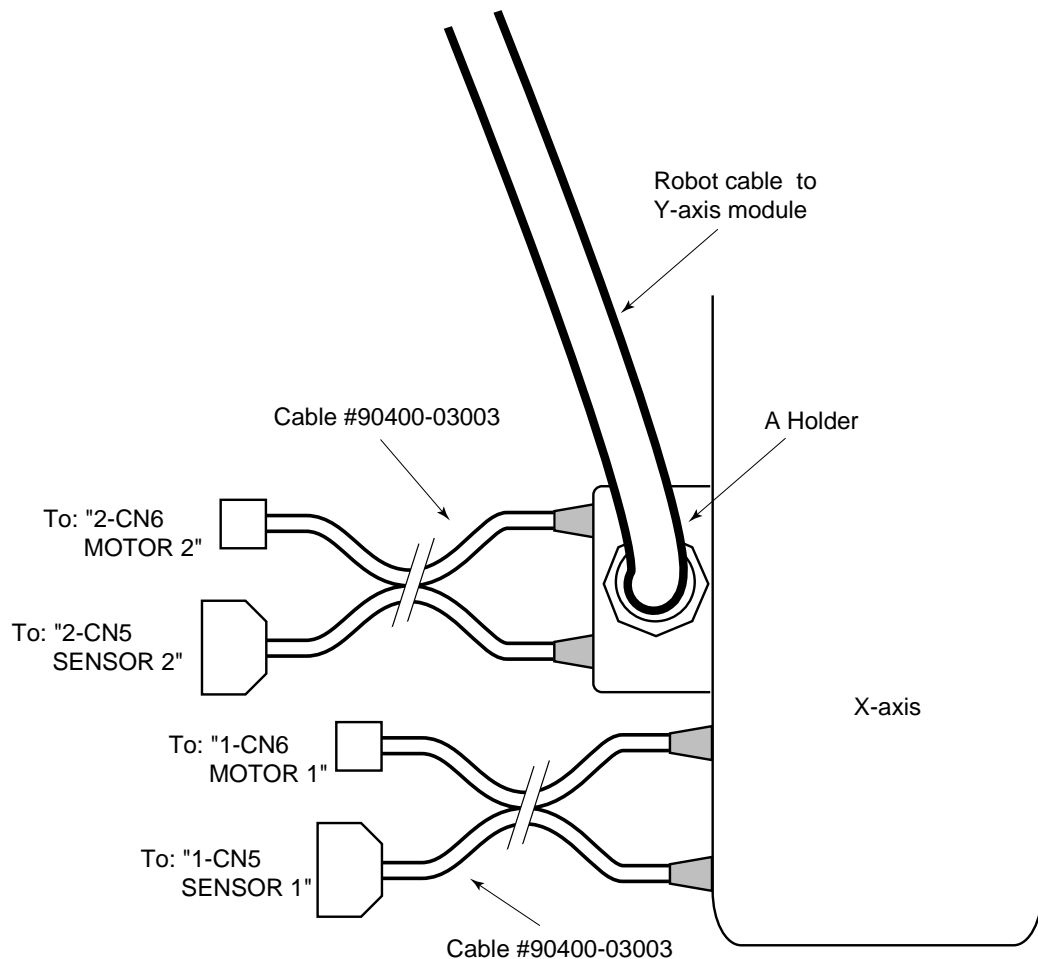

Figure 4-60. Connecting to an EXA or EXC Controller
- a. Connect the two barrel ends of the cable to the X-axis module as shown in Figure 4-60. These connectors have different pin sizes and cannot be installed incorrectly. The other ends connect to the controller connections marked “1-CN6 MOTOR 1” and “1-CN5 SENSOR 1”.
- c. Attach the A holder end of the robot cable to the side of the M module as shown in Figure 4-60 (refer to Section 4.3 for holder mounting).
- e. Connect the two barrel ends of the cable to the Y-axis module as shown in Figure 4-60. These connectors have different pin sizes and cannot be installed incorrectly. The other ends connect to the controller connections marked “2-CN6 MOTOR 2” and “2-CN5 SENSOR 2”.